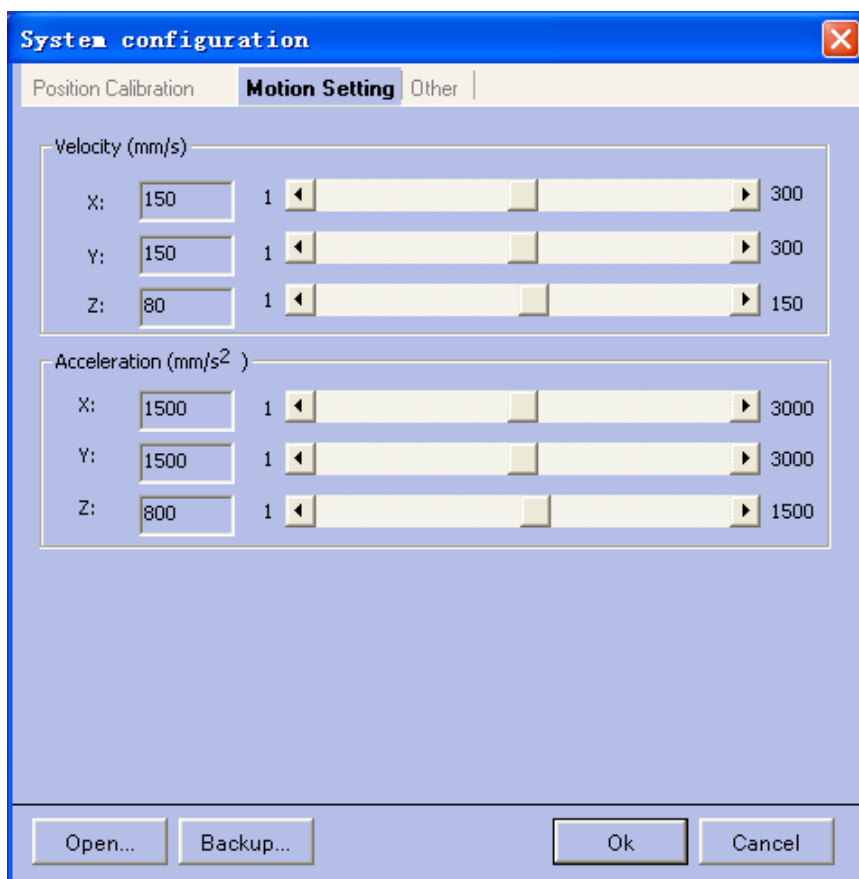

Figure 6-6 Velocity parameters setting interface
- Access the Motion Setting page on the Configuration Panel, as shown in Figure 6-6